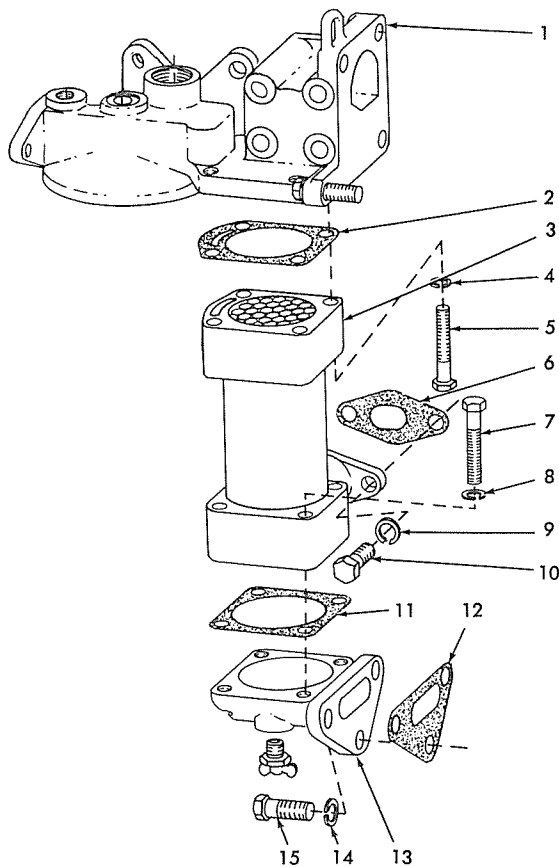

Fig. 13—Engine Oil Cooler Details
1. ENGINE OIL COOLER REMOVAL (TRACK-TYPE TRACTORS) Fig. 13
- c. Remove capscrews (5) and lockwashers (4)